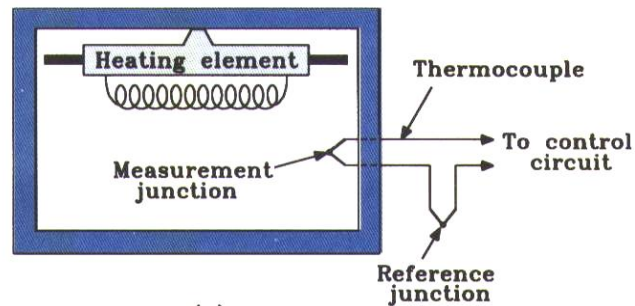

Figure 3: Thermocouple sensor
- (e) The technician need additional sensor to measure the temperature of the water, thus he decided to use thermocouple temperature sensor as in **Figure 3**. The water temperature range is from 0 to 200°C Calculate the net voltage produced by thermocouple if the hot junction produce 100mV at 150°C and 15mV at cold junction at 17 °C